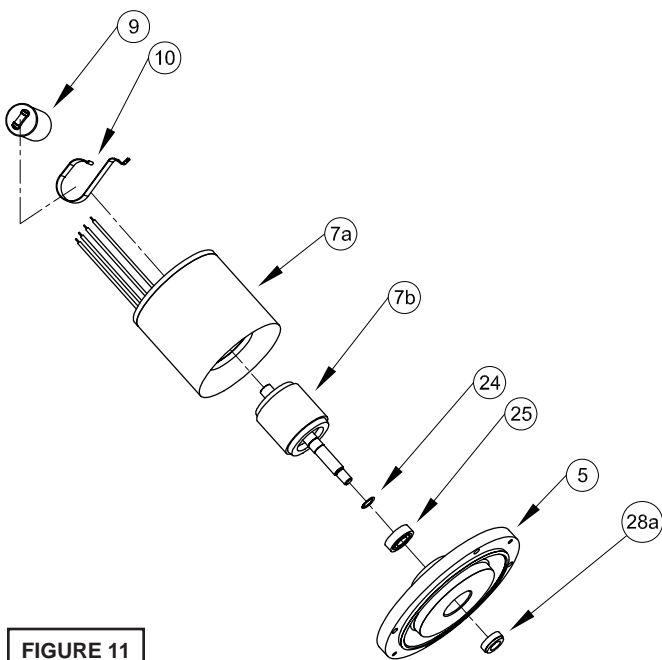

FIGURE 11
The unit voltage should be noted. Repeat cable and terminal block removal procedure for any control cables (56) if equipped. Remove socket head cap screws (47). Vertically lift the motor housing (6) from seal plate (5) by lifting handle (13). Inspect square ring (27) for damage or cuts. Remove the motor bolts and lift motor stator from seal plate (5). Disconnect capacitor leads from capacitor (9, single phase units). Examine bearing (25) and replace if required. If replacement is required, remove bearing (25) from motor shaft using a wheel puller or arbor press, see Figure 11.